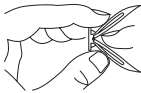

Figure 11 - Folding Anchor
- Using wall anchors supplied in hardware package, fold wall anchor as shown in Figure 11.